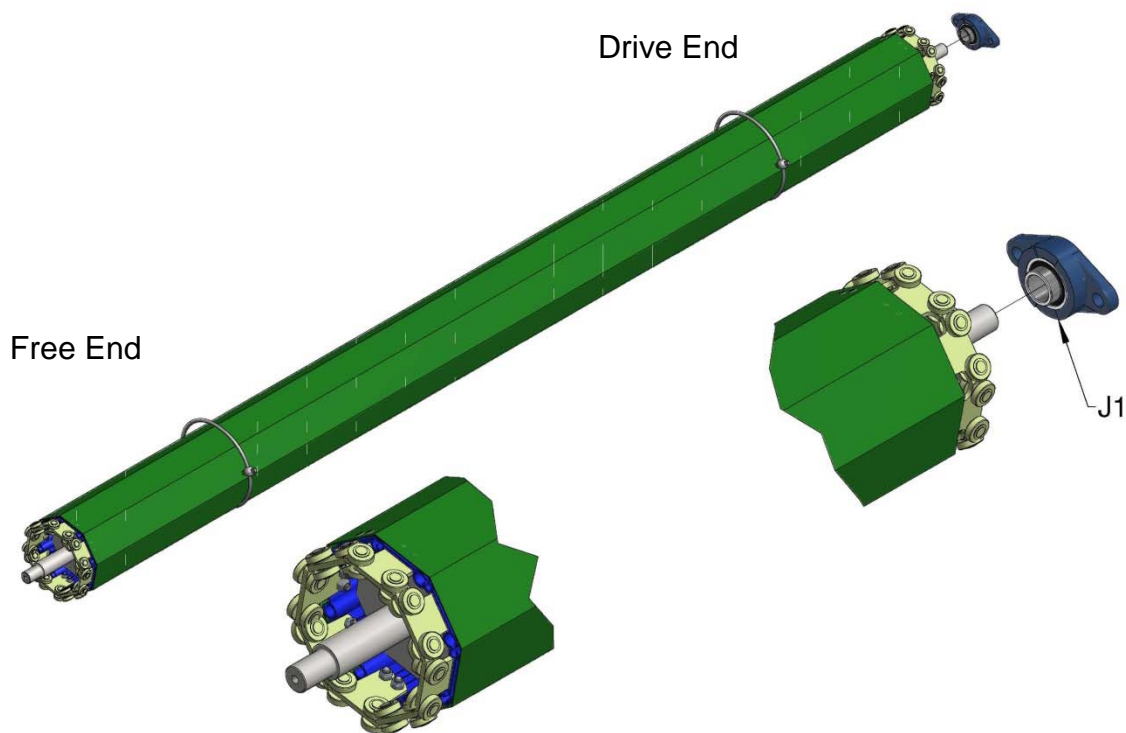

Figure 11b, Indirect Drive Barrel Assembly (optional)
**Indirect Drive** (optional) – Fit the bearing to the drive shaft (note direction of bearing) as shown in Figure 11b.